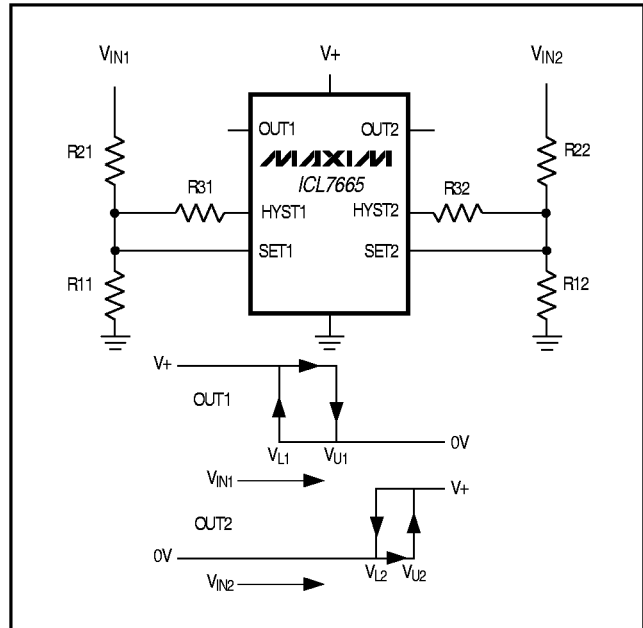

Figure 4. Threshold Detector with Hysteresis
Figure 4 adds another resistor to each voltage detector. This third resistor supplies current from the HYST output whenever the  $V_{SET}$  input is above the 1.3V threshold. As the formulas show, this hysteresis resistor affects only the lower trip point. Hysteresis (defined as
- Figure 4**